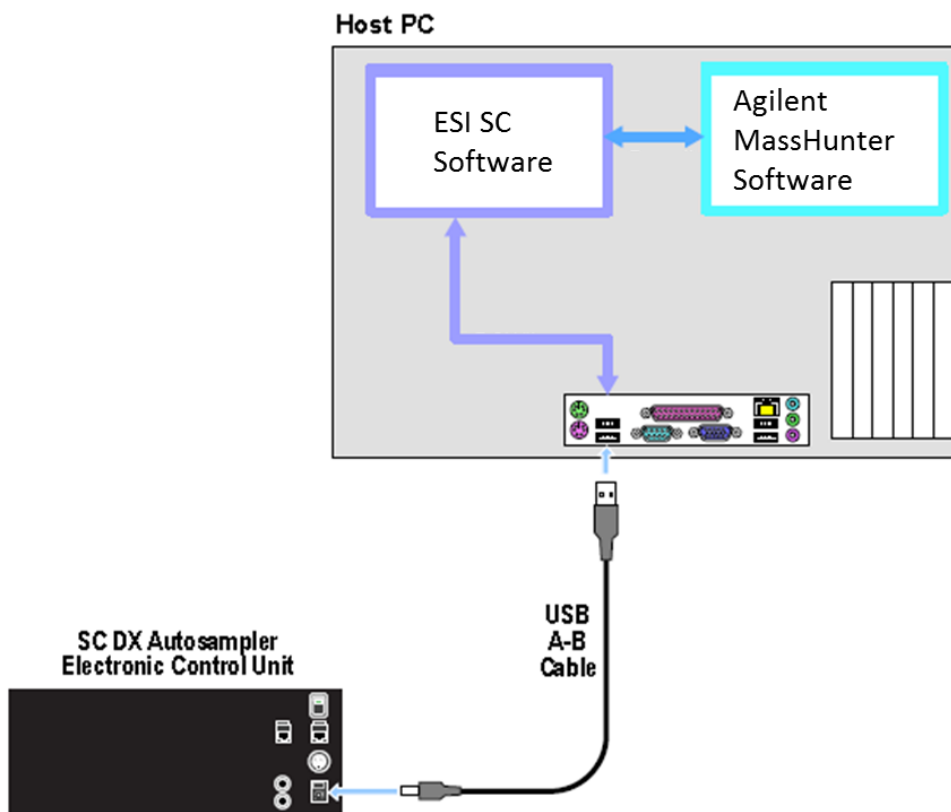

Figure 10: Connections for SC with MassHunter.
- 2) Connect 24 V DC power to the SC Autosampler. Connect the USB cable between the computer and the SC Autosampler control unit. Turn on the SC Autosampler. See Figure 10.
- 2) Connect 24 V DC power to the SC Autosampler. Connect the USB cable between the computer and the SC Autosampler control module. Turn on the SC Autosampler. See Figure 10.